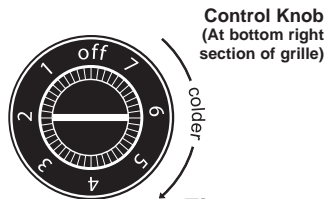

Figure 2
**Set the Control:** The total available temperature range of the unit is from 39°F to the high sixties, depending on the thermostat setting and location of the cabinet. The middle range on the control is from the mid-forties to the mid-fifties depending on ambient temperature and location of the cabinet. The temperature can be lowered or raised by turning the control clockwise or counterclockwise, respectively. As with any refrigeration product, there is a slight temperature variance at different locations within the cabinet. For example, the coolest area will be in the rear of the lowest two shelves. The items on the top two shelves will be 5° to 10° warmer. This is the warmest location. Items in the front of the middle shelves will be 1° to 4° warmer than the rear of the shelves. Position your wine inventory accordingly on your wine shelf. To start your appliance, use a screwdriver to turn the control clockwise to the middle thermostat setting (see figure 2). Once the refrigerator is loaded, allow at least 48 hours for the unit to stabilize before making any adjustments to the initial setting.